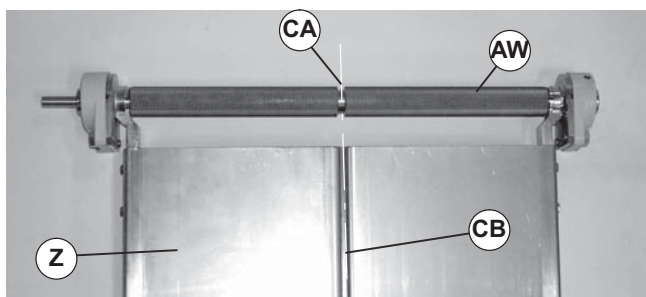

Figure 46
Before tightening set screws on bearing and head plate assemblies, make sure that center of groove (Figure 46, item CA) on spindle (AW) is in line with center of groove (CB) on conveyor (Z).
5. Make sure center of groove (Figure 46, item CA) on spindle (AW) is aligned with center of groove (CB) on conveyor (Z).